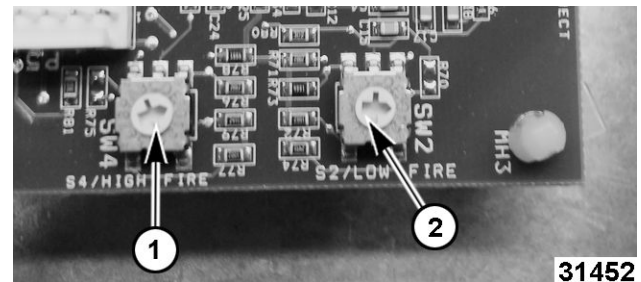

Fig. 44
- High Fire = F (1, Fig. 44)
- Low Fire = 9 (2, Fig. 44)